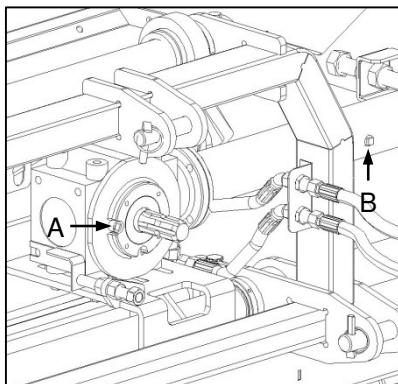

Fig. 6
- ✓ The gearbox (Fig. 6-A) and extension housing (Fig. 6-B) are equipped with filling ports. Check oil levels in both locations.
- ✓ Die ratkas (Fig. 6-A) en verlengomhulsel (Fig. 6-B) beskik oor olievlakpunte. Olievlakke moet by albei punte nagegaan word.